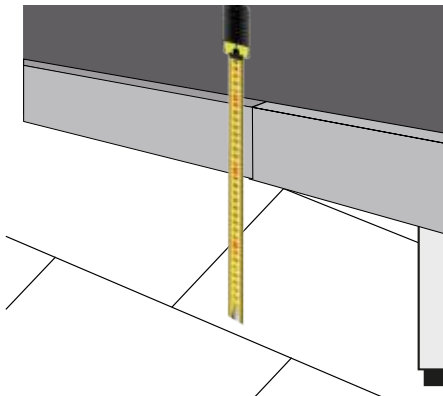

Fig. 4
- Measure the height from the floor to the top edge of the back-cross bar (Fig. 4) and add 15mm.
Fig. 4 b